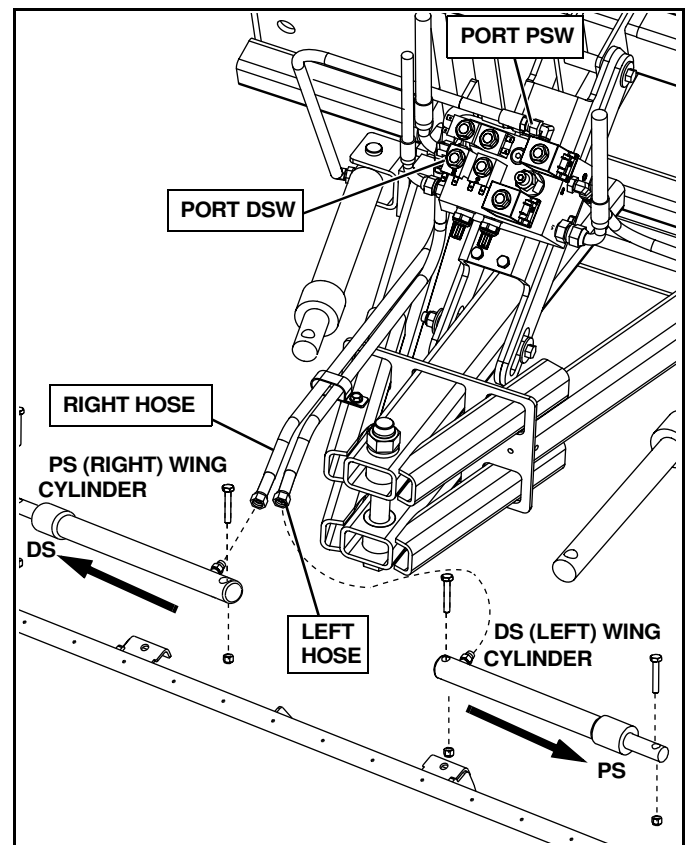

Figure 2-10
5. REVHDSKD ONLY: Connect the hydraulic hose from port marked PSW on the valve block to the right (passenger side) wing cylinder. Connect the hose from port marked DSW on the valve block to the left (driver side) wing cylinder (See Figure 2-10)